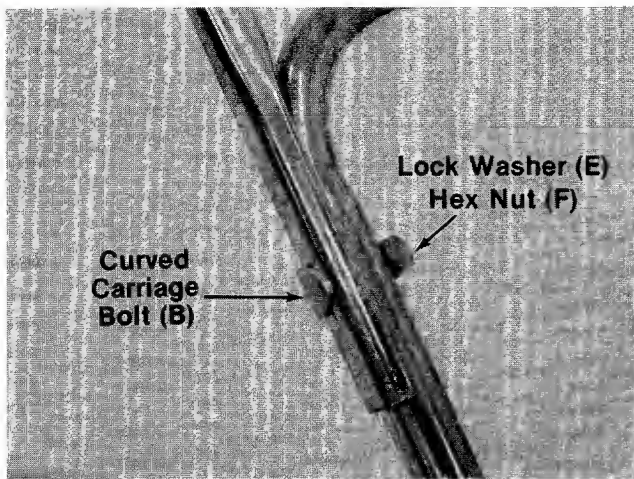

FIGURE 3.
- A. **Units with Non-Folding Handle**—Secure upper handle with two curved carriage bolts (B), lock washers (E) and hex nuts (F). See figure 3.
- B. **Units with Folding Handle**—Secure with two carriage bolts (B) and hand knobs (A). The knobs can be either to the inside or outside of the handle.